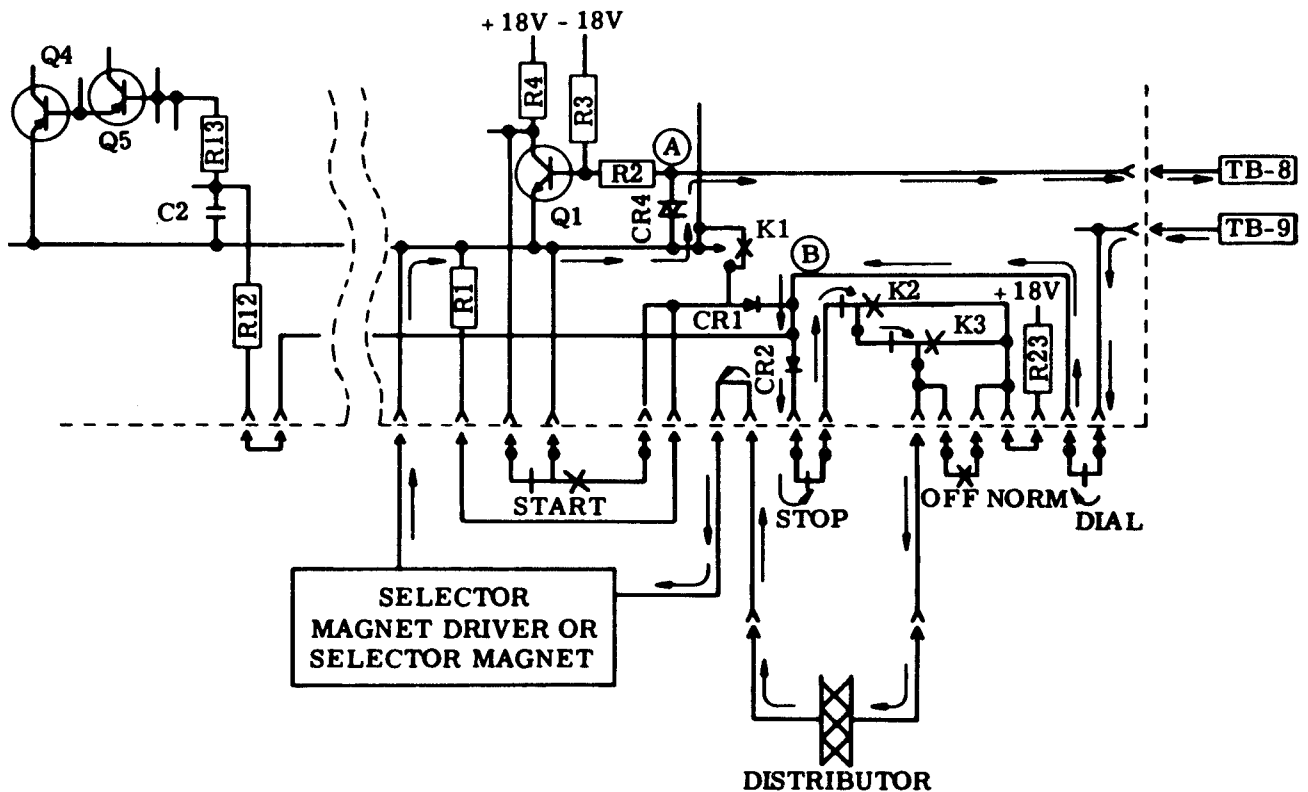

Figure 9 - Local-Remote Control Circuit - Current Flow (Local Connection)
3.30 The schematic diagram of the local remote control circuit (Figure 9) shows the current flow during the local connection.
3.31 Local Connection: If a call is initiated locally, current in the loop will be 0.060 ampere from TB8 to TB9 through the path described in 3.28 before connection. When the loop polarity is reversed by the exchange, current will flow from TB9 to TB8. Diode CR1 becomes reverse-biased and stops current flow except through R12 and R13. This current flow will turn off Q4 and turn on Q6. With Q6 in conduction, the connect circuit will be on, the K2 relay will operate and the CONN (connect) lamp will light. The contacts of the K2 relay will switch and allow the loop current of 0.060 ampere to flow through the distributor and selector magnet driver as shown in Figure 9. Loop current now flows from TB9, through the dial pulse contacts, CR2, K2 relay contacts 2 and 3, K3 relay contacts 1 and 2, the keyboard distributor, the selector magnet driver, and CR4 to TB8.